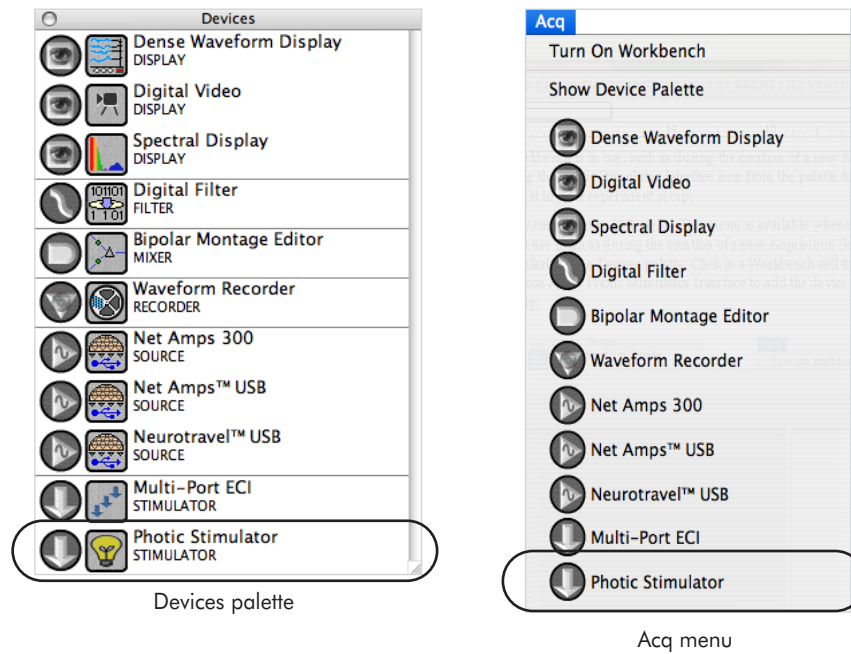

Figure 10-1. The Photic Stimulator device icon in the Devices palette (left) and the Acq menu (right)
- *Devices palette* (Figure 10-1, left): This palette is available whenever the Workbench is in use, such as during the creation of a new Acquisition Setup. Drag the Photic Stimulator Interface icon from the palette to the Workbench to add it to your experiment setup.
- *Acq menu* (Figure 10-1, right): This menu is available whenever the Workbench is in use (such as during the creation of a new Acquisition Setup), and functions similarly to the Devices palette. Click in a Workbench cell to select it, and choose **Acq > Photic Stimulator Interface** to add the device to your experiment setup.